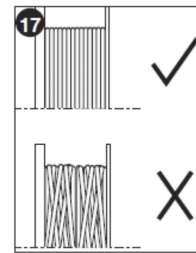

Figure 17
Wind the cutting line onto the spool in the direction of the arrow on the spool. Make sure to wind the line on neatly and in layers. Do not crisscross (figure 17).
- Ensure that the line is not crisscrossed on the spool as detailed in figure 17. If it is, unwind the cutting line, then wind it back on the spool neatly so that the lines do not cross.